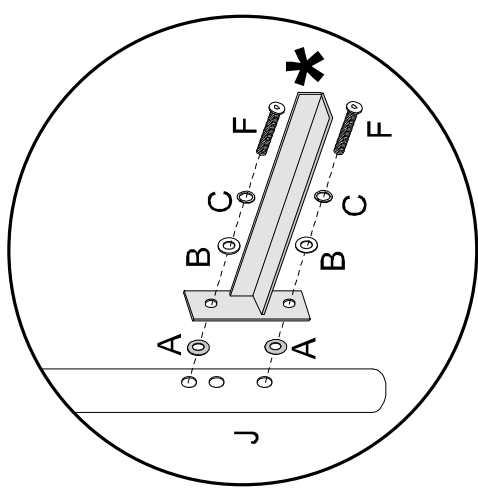

Figure 2
*** Bed Frame Not Included As Shown In Figure 2.**
Attach Bed Frame (*Not Included) to each Leg Extension (J) using 2 Medium Allen Bolts (F), 2 Spring Washers (C), 2 Metal Washers (B) and 2 Rubber Washers (A) per each leg extension. Tighten All Bolts. See Figure 2.